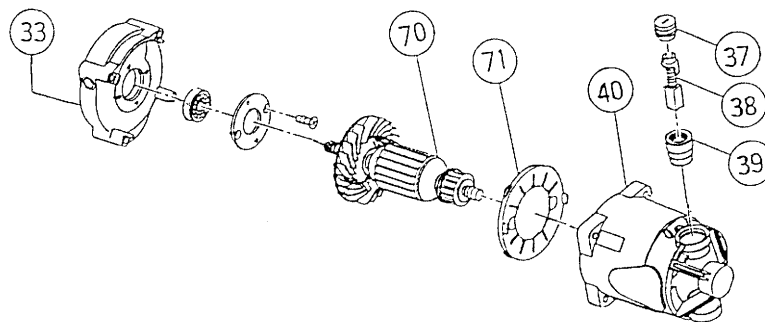

Fig. 8
(6) Disassembly of Inner Cover (A) [33] and the Housing [40] section (Fig. 8)